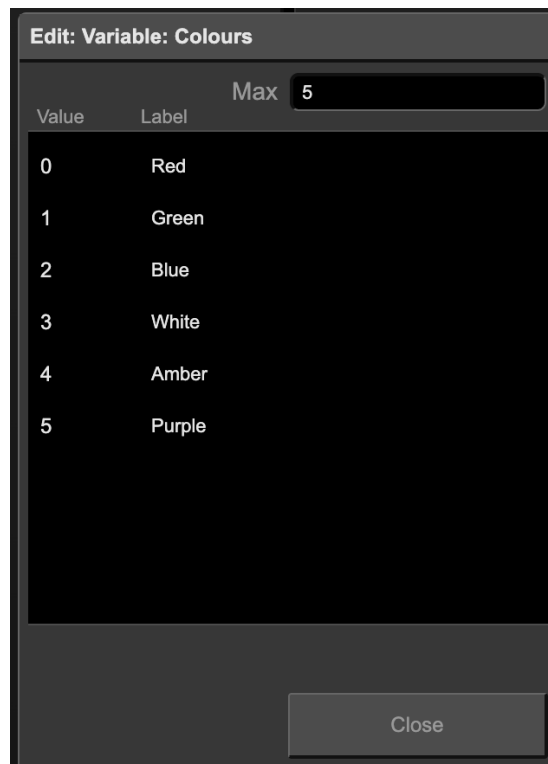

Figure 7.3: Editing variable labels
- Then use the '*Edit*' button to assign the labels: The amount of values limited, and each value given a label. See figure 7.3